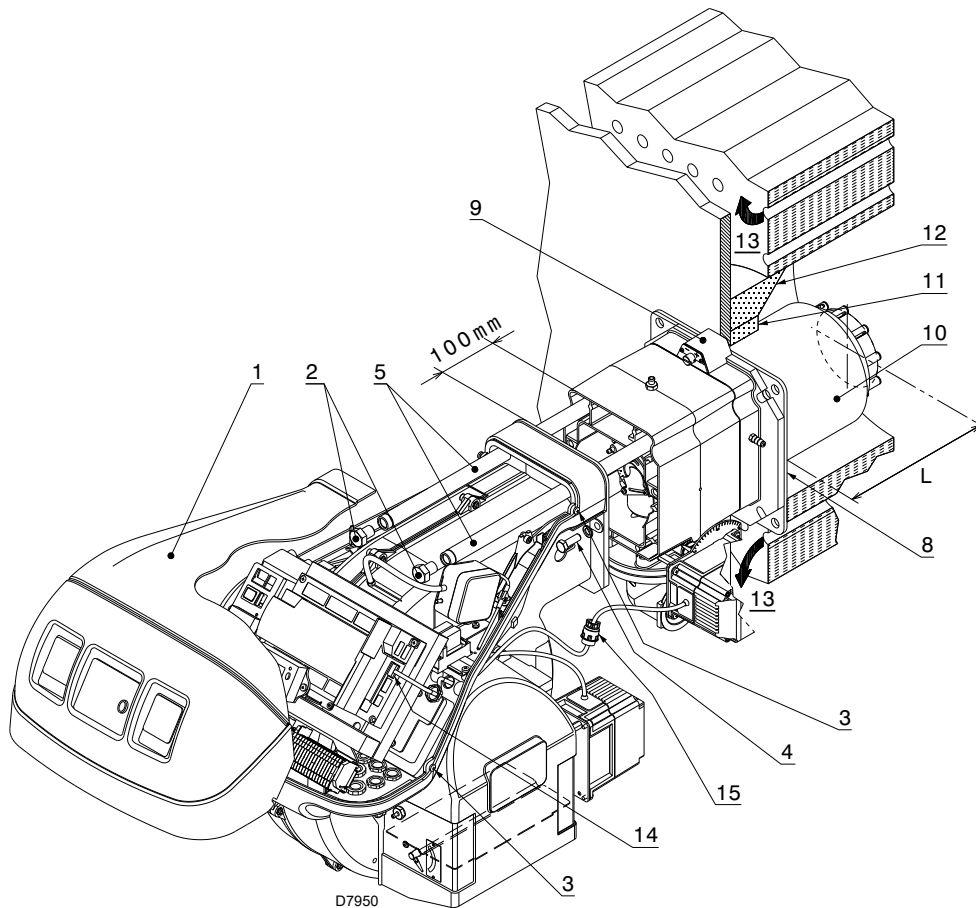

Fig. 17
For boilers with front flue passes 13)(Fig. 17 at page 24), or flame inversion chambers, a protection in refractory material 11) must be inserted between the boiler refractory 12) and the blast tube 10).
For boilers with a water-cooled frontal, a refractory cover is not necessary 11)-12)(Fig. 17), unless expressly requested by the boiler manufacturer.
Separate the combustion head from the rest of the burner, as in Fig. 17; proceed as follows:
- reassemble the burner on the guides 3) at about 100 mm from the pipe coupling 4) - burner in the position shown in Fig. 17;
- connect the plug of the servomotor 14)(Fig. 17) and tighten the grommet 15);